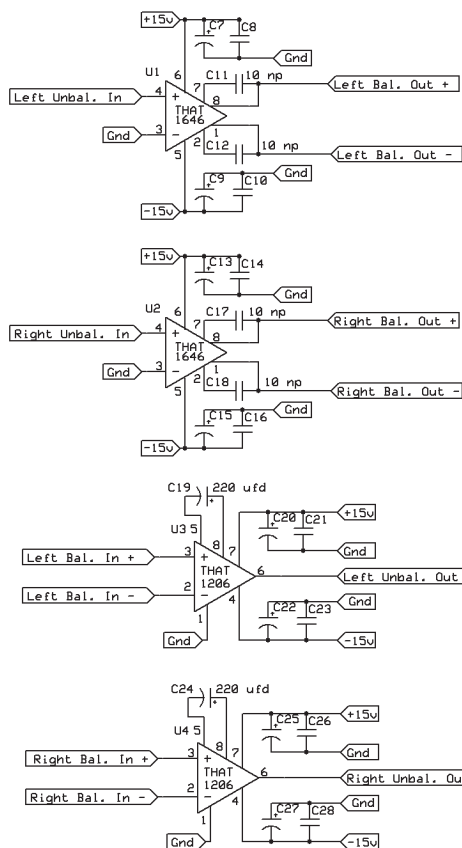

FIGURE 1: Unbalanced/balanced converter circuit.
- A schematic as previously shown in **Fig. 1**.